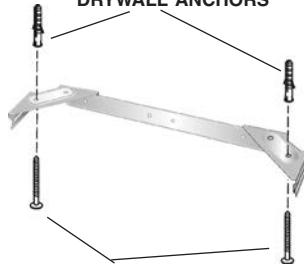

FIG. 9
3. Secure the bracket assembly to the ceiling using (2) 4.8 x 38 mm mounting screws and drywall anchors. Fig. 9. Make sure the bracket is pushed into the corner, tight against the wall and centered over the hood.